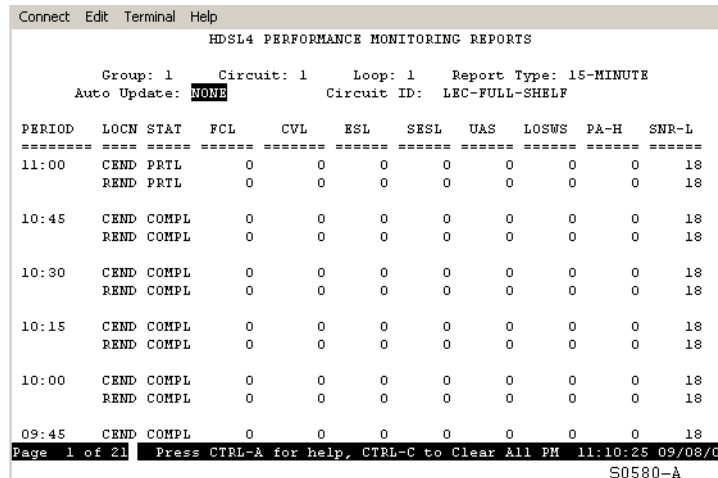

Figure 13. HDSL4 Performance Monitoring Reports Screen
- 3 In the HDSL4 Performance Monitoring Reports selection screen, select the **Group** and **Circuit** containing the H4LXC for which a report will be generated. Press the **ENTER** key. The HDSL4 Performance Monitoring Reports screen appears as shown in Figure 13 on page 21.